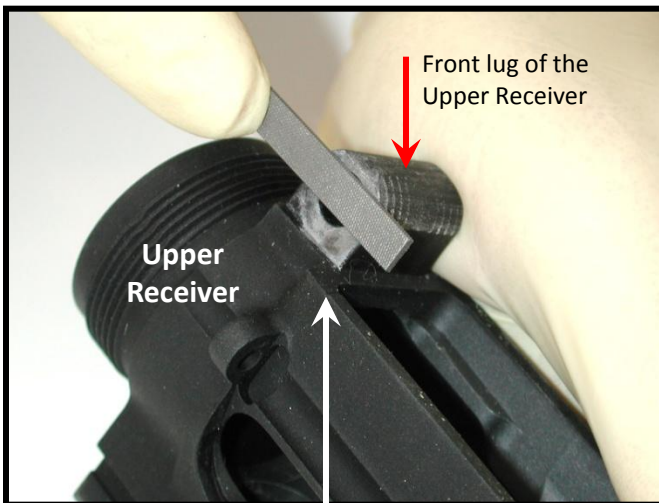

Figure 8
- a. Use a file as demonstrated in (Figure 8) to remove the metal evenly from the outside of the Upper Lugs as needed to get a snug fit. A pair of calipers can make this a little easier.